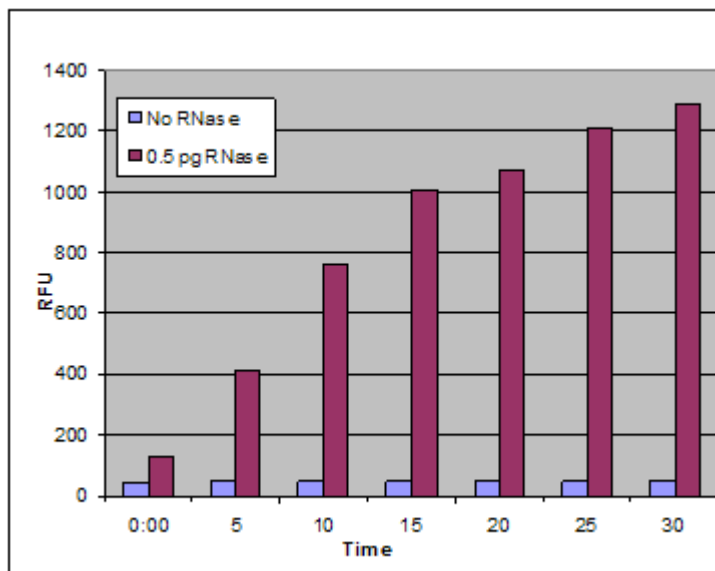

Figure 1 Real-time RNaseAlert® Lab Test Kit v2 data
*(Optional)* To measure fluorescence with a plate fluorometer capable of real-time measurements, pipet the samples into separate wells of a black 96-well plate, and incubate the plate in the fluorometer, collecting real-time data at 5 minute intervals for 1 hour. If a fluorometer without real-time capabilities will be used, see “How to analyze and interpret results by fluorometer” on page 6. See Figure 1 for example data.
- The excitation/emission (ex/em) maxima for the RNaseAlert® Substrate v2 is 490/520 nm. See Figure 1 for example data.